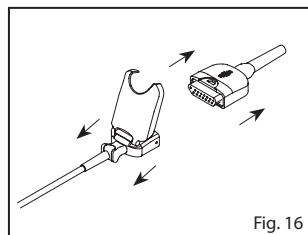

Fig. 16
2. Refer to **Fig. 16**. Pull firmly on the sensor connector to remove from the patient cable.